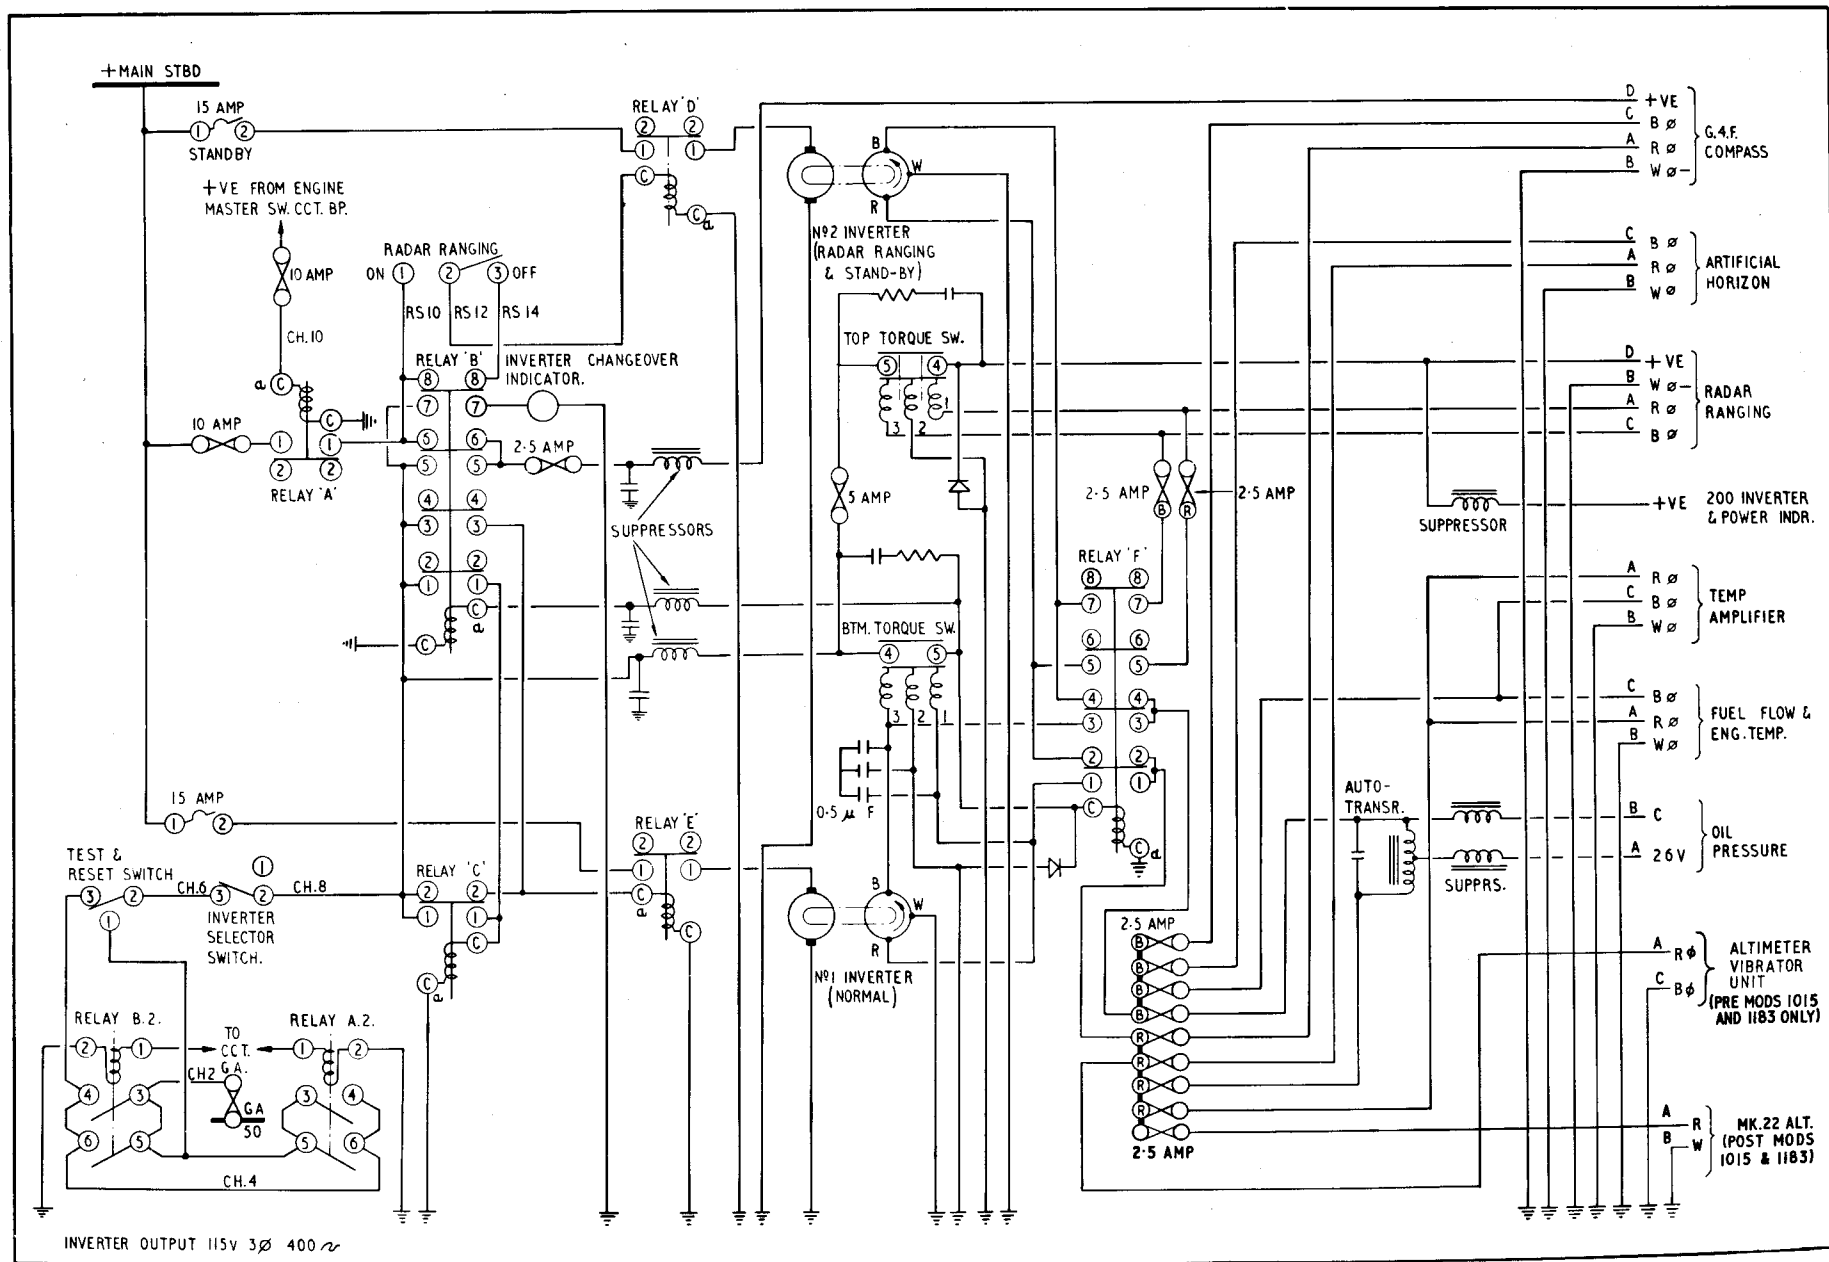

Fig. 1 A.C. supplies circuit (theoretical)
A.C. Supplies circuit (theoretical)	Fig. 1
1. This Appendix describes the revised a.c. supplies circuit introduced by Mod.1320 (Tacan) into certain Mk. 6 aircraft. Circuit changes are contained in the wiring diagrams at figs. 1 and 2 of this Appendix. Circuit operation for the A.R.I.18107 (Tacan) equipment a.c. supplies is described in Sect. 5, Chap. 1, Group H.1, Appendix 2.